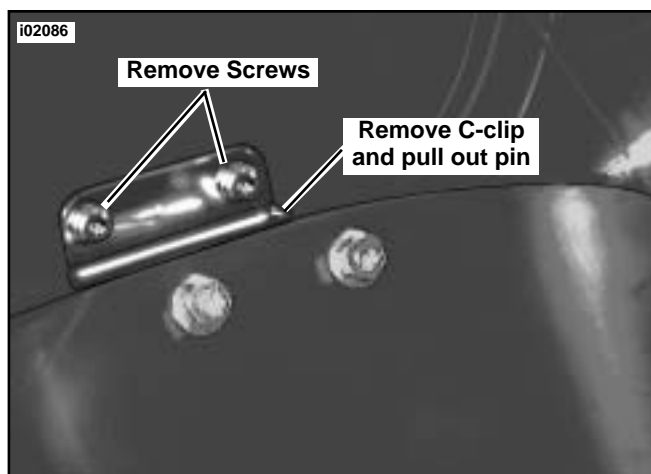

Figure 13. Remove Hinge
29. See Figure 13. Remove C-clip securing hinge pin and remove pin from hinge. Separate lid from saddlebag body.